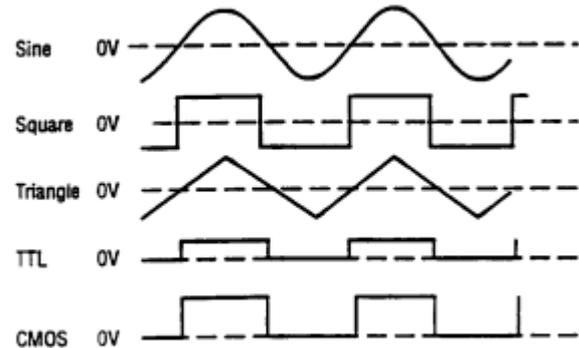

Figure 2. Output Waveform and Phase Relationship
- Initially, verify that the **DUTY CYCLE** (2), **CMOS LEVEL** (3), **DC OFFSET** (4), **-20dB** (5), and **SWEEP EXT/INT** (22), and **AM/FM** (35) switches are in the released position. This will produce a symmetrical waveform unaffected by the sweep generator and other controls.
- Plug the unit into an appropriate power source and turn it on by depressing the **POWER** switch (1).
- Select the desired waveform (**SINE**, **SQUARE**, or **TRIANGLE**) by depressing one of the **FUNCTION** switches (9). Phase relationships of the waveforms are shown in Fig. 2.
- Select the frequency of the waveform by depressing one of the **RANGE** switches (6). The output frequency is displayed, along with the appropriate measurement units. **KHz** or **Hz** (31), on the LED display.
- Rotate the **COARSE** (28) frequency control to quickly set the output frequency to the approximate desired value. The **FINE** (26) frequency control can then be used to easily set the output to the specific desired value. The frequency selected is available at the **OUTPUT** jack (13). In addition, a digital signal, either **TTL** or **CMOS** is available at the **TTL/CMOS** jack (15) (refer to the "TTL/CMOS OUTPUT" section of this manual).